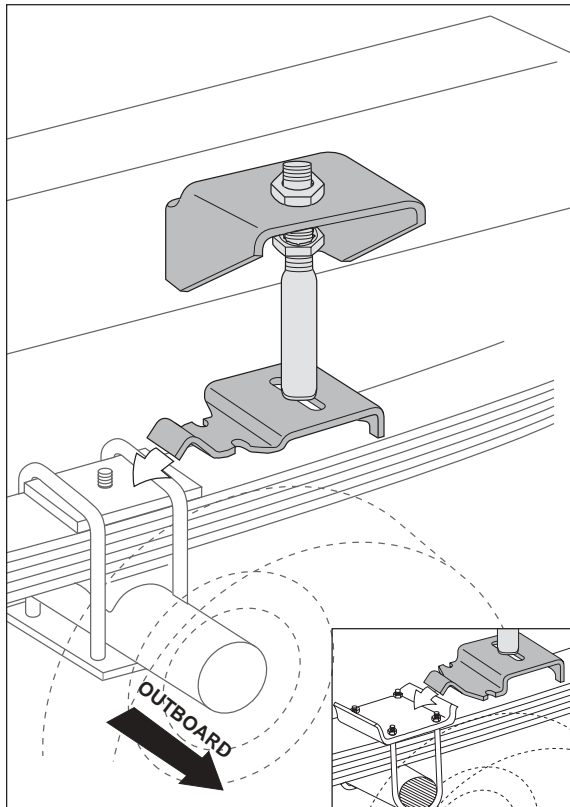

Figure 8
2. With the hook end of the lower bracket placed over the U-bolt (Figure 8) or edge of the spring retaining plate (Figure 8, inset), secure the lower bracket to the leaf spring with the provided U-bolt (J), clamp bar (I), flat washers (L), and lock nuts (K). Torque to 16 ft-lbs.